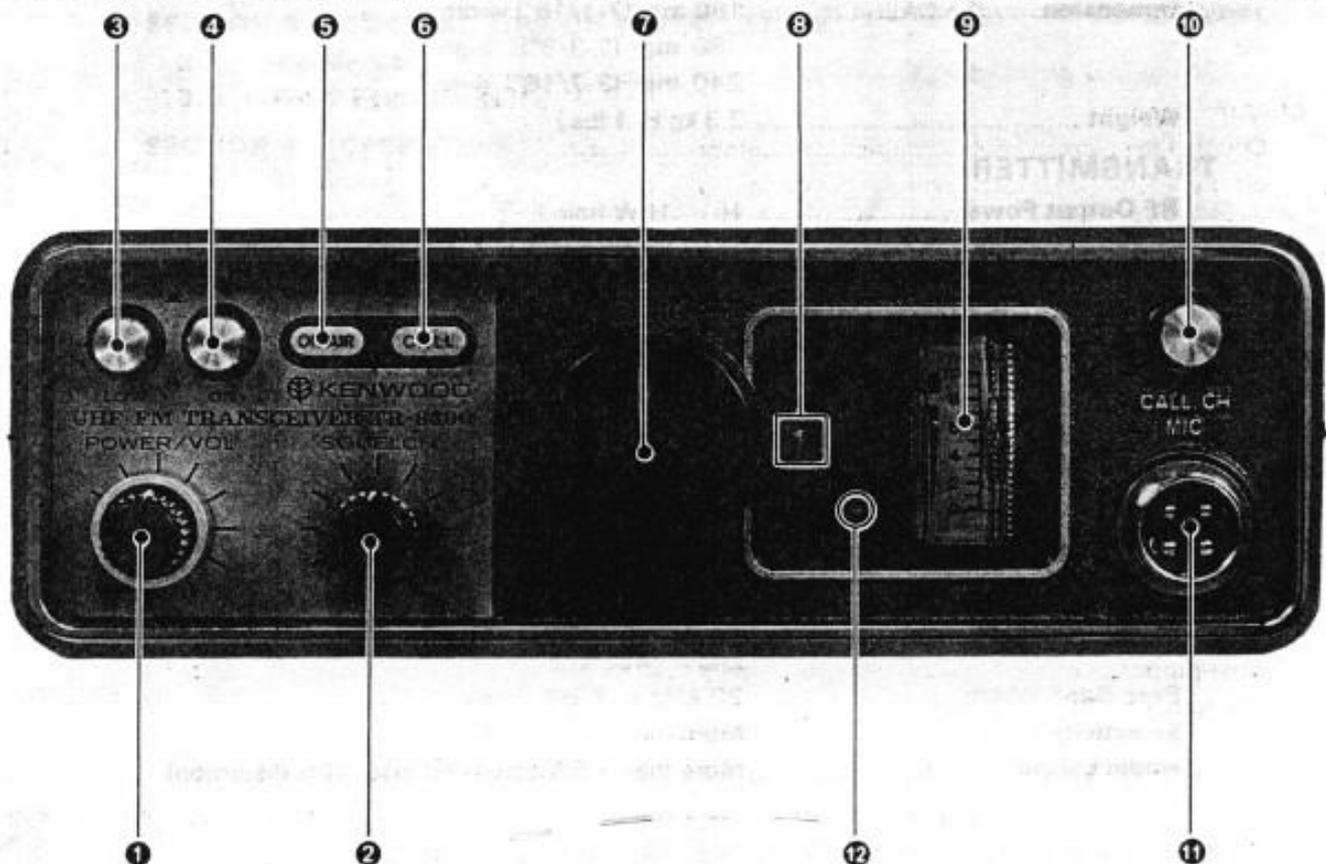

Fig. 1
2.1 FRONT PANEL (Refer to Fig. 1)